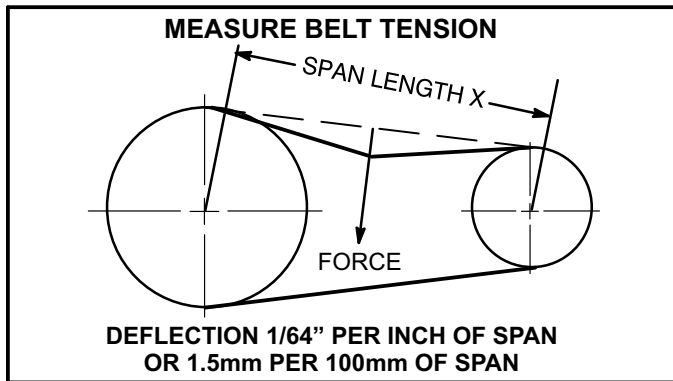

**FIGURE 9**
- 5- The blower RPM can be adjusted at the motor pulley. Loosen Allen screw and turn adjustable pulley clockwise to increase CFM. Turn counterclockwise to decrease CFM. See figure 9. Do not exceed minimum and maximum number of pulley turns as shown in table 5.
- 1- Loosen four bolts securing motor base to mounting frame. See figure 9.